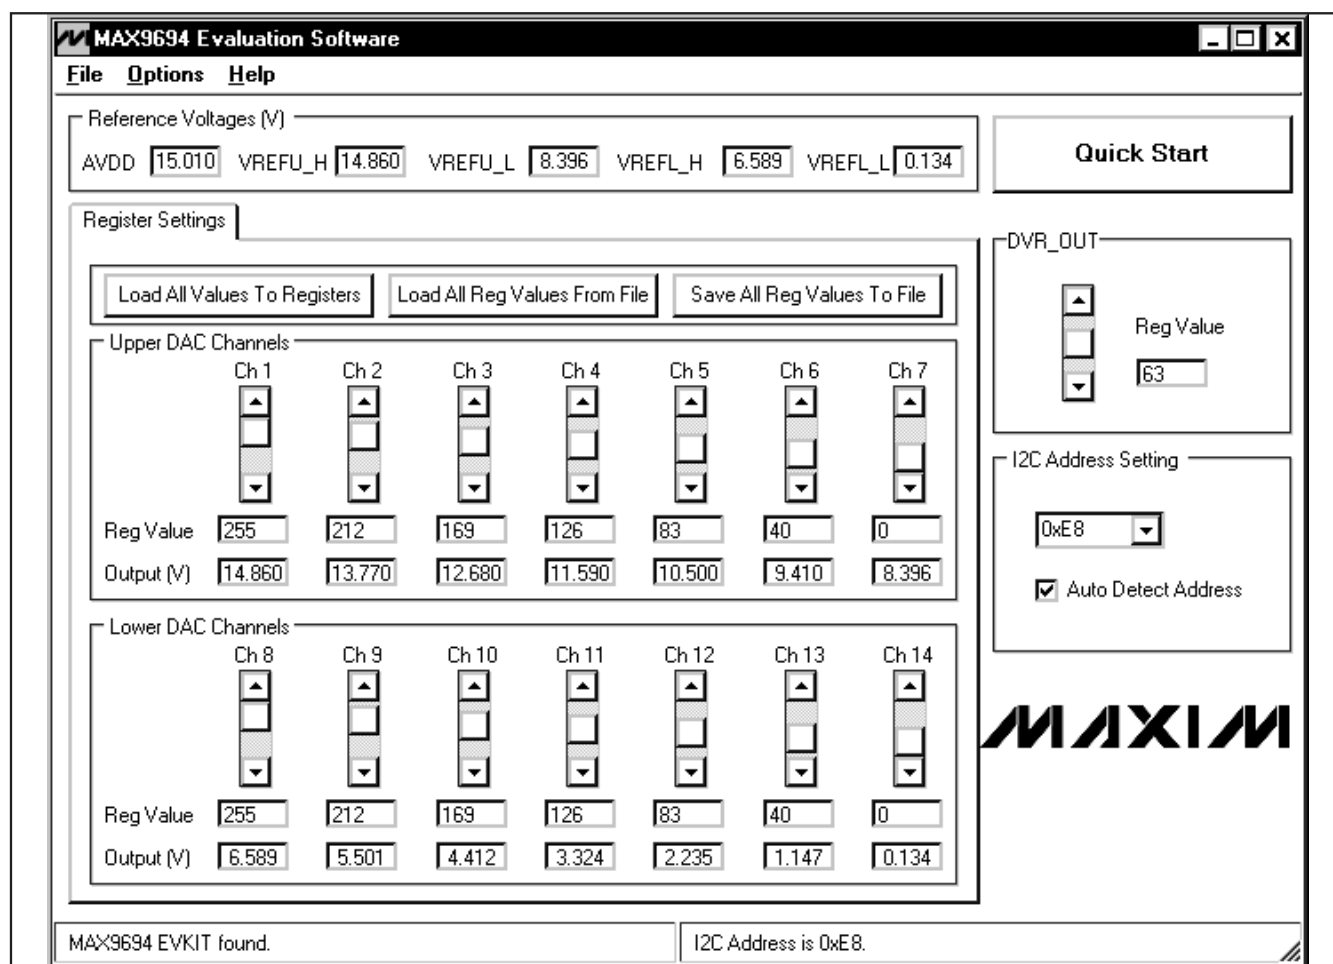

Figure 1. MAX9694 Evaluation Software Main Window
- 13) Start the MAX9694 EV kit software by opening its icon in the **Start | Programs** menu. The EV kit software main window appears, as shown in Figure 1.
- 14) Use the DVM voltage probe to measure the reference input voltages on the VREFU\_H, VREFU\_L, VREFL\_H, and VREFL\_L PCB pads, and type those values into the corresponding edit boxes of the **Reference Voltages (V)** group box in the software.
The MAX9694 evaluation software main window is shown in Figure 1. The GUI software automatically detects the MAX9694 device address and displays it in the **I2C Address Setting** drop-down list and in the software status bar. The DAC output voltages in the **Upper DAC Channels** and **Lower DAC Channels** group boxes are calculated using the upper and lower reference input voltages on PCB pads VREFU\_H, VREFU\_L, VREFL\_H, and VREFL\_L. The reference input voltages
The **Quick Start** button loads all registers with the values shown in Figure 1.